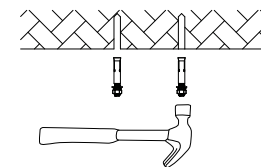

Figure 4
2. Use a hammer to drive the screw into the hole (see Figure 4).